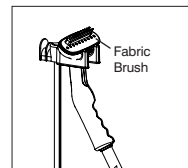
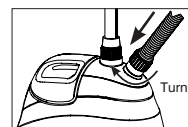

Figure 3
Figure 4
5. Attach the fabric brush to the nozzle by setting into place (Fig. 3).
6. Attach handle & hose assembly to unit. Line up the nut on the hose with the screw on the hose connector. Turn nut clockwise until it is securely tightened on the hose connector, (Fig 4). It should be tightly screwed into place. Then you may hang the steamer handle onto the hanger attachment (Fig. 3).
- Attach the fabric brush onto the steam nozzle (Fig. 3).